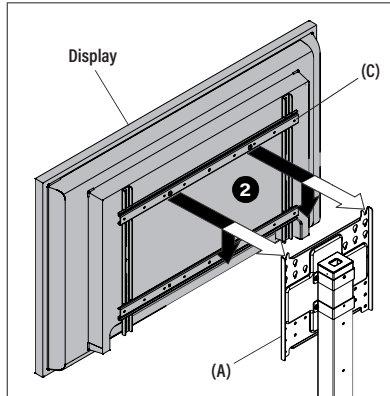

Figure 7
(2) While supporting both sides of display, align two 5/16-18 x 5/8" screws (S) installed in upper horizontal interface (C) with two mounting holes in the face plate assembly (A). (See Figure 7)